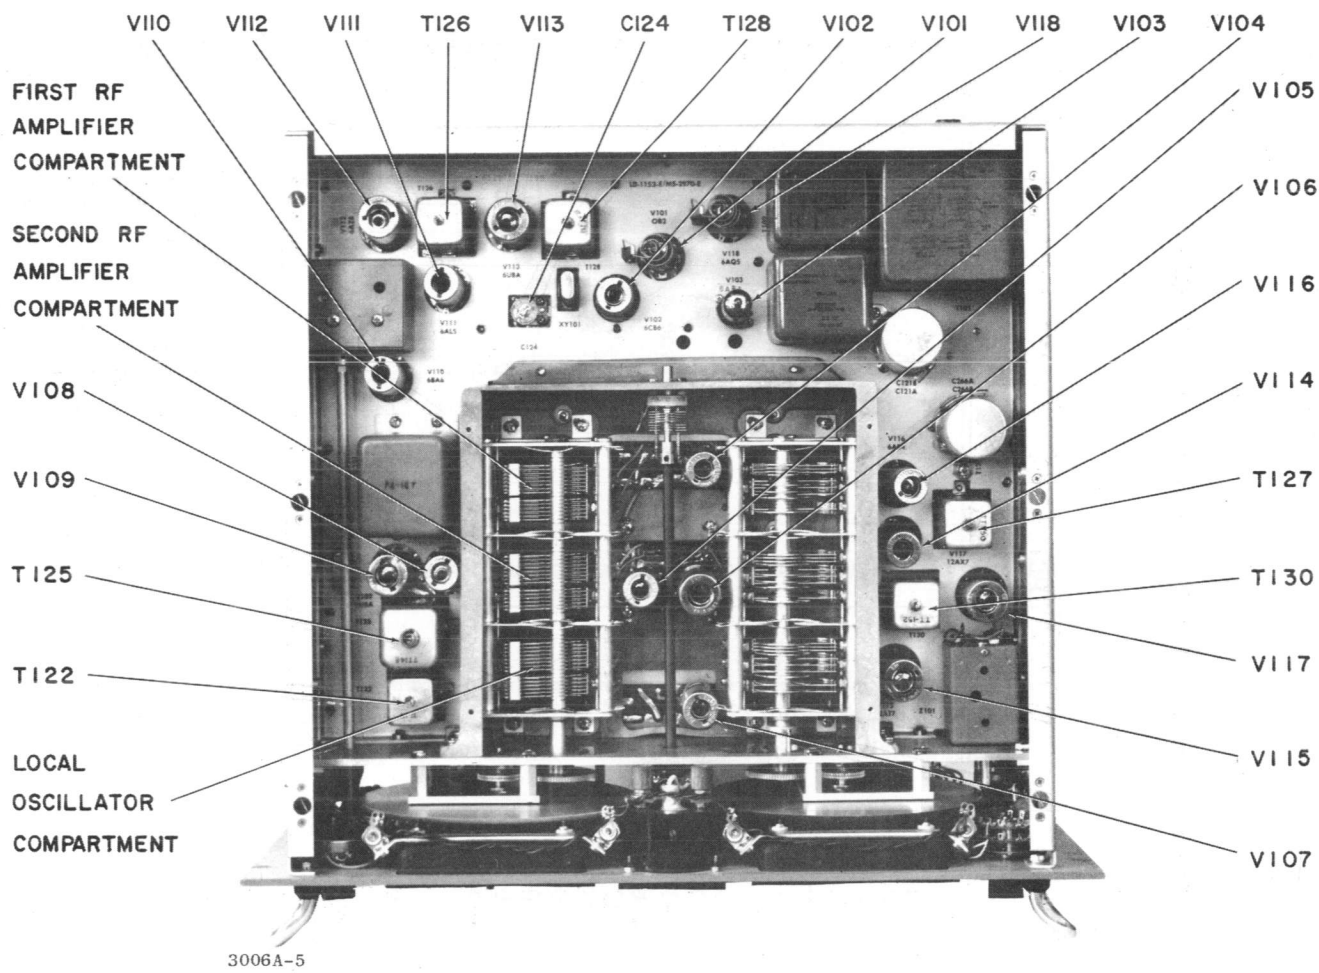

Figure 5-1. GPR-92A, Top View with Cover Removed
**b. REPAIR.** - In most cases, the repair of the GPR-92A will consist of the replacement of an electron tube or a simple electrical component; in these cases, no special instruction is required. (See figures 5-1 and 5-2.) However, the following hints are provided to ensure that the repairs are completed properly.
(1) Always replace a defective component with its exact duplicate.
(2) Always place a new component in the same position occupied by the one it replaces. In general, never change the existing chassis layout, whether it is wiring or component placement.
(3) Never use a soldering iron with a rating of more than 100 watts. Use a pair of long nose pliers as a heat sink to protect components while soldering.
(4) Be extremely careful when replacing components on printed circuit boards. Excessive heat applied to a board will cause the printed wiring to lift off.
(5) Always double check any solder joints made. Cold or loose solder connections can cause trouble at a later time.
(6) Be sure to replace all shielding plates when reassembling the GPR-92A. Occasionally, replacement procedures and some of the electrical-part replacements are not obvious. These are provided on the following pages.